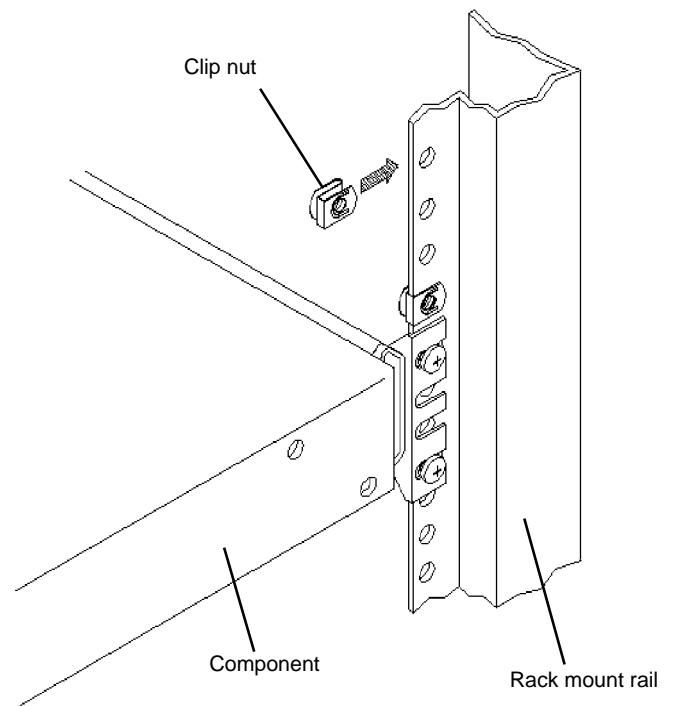

Figure 2
2. If you are installing the Frame Bracket onto rack mount rails, four **Clip Nuts** (two per rail) must be snapped onto the rails as shown in **Figure 2**. If the Bracket is being installed onto a Full Frame, proceed to step 3.